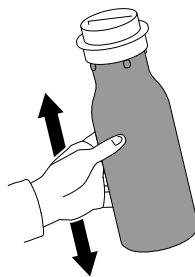

Figure 2-48 Shake Toner Bottle
4. Shake the contents of the toner bottle to loosen any toner that has settled and packed during shipment. See Figure 2-48.